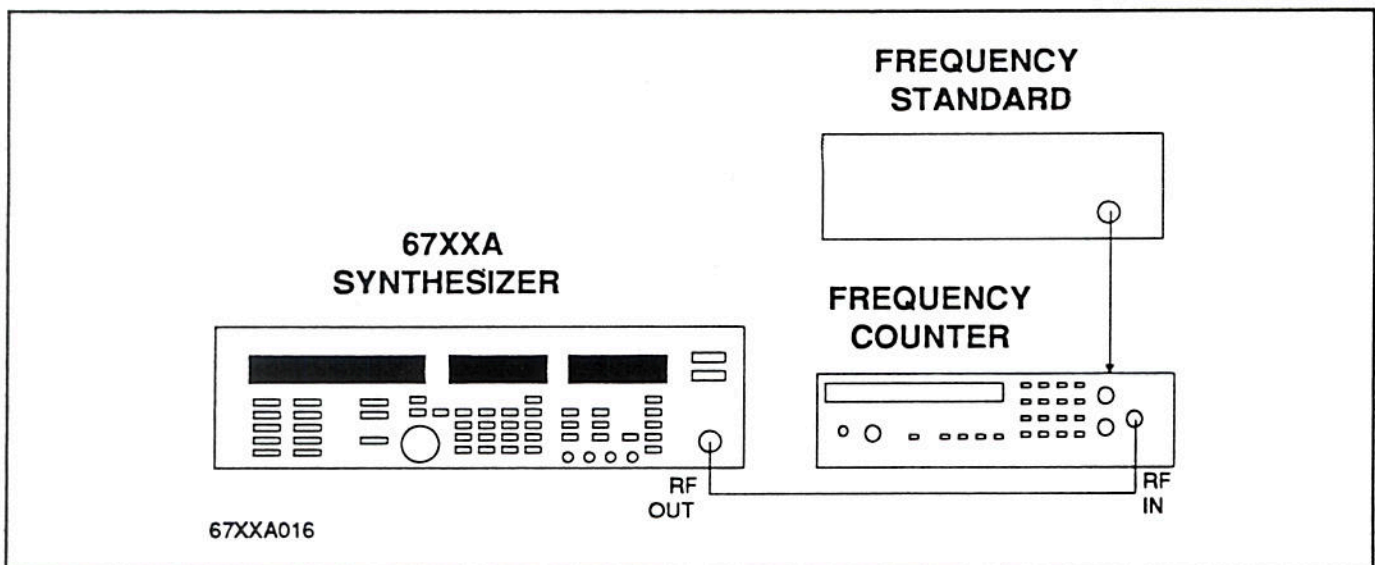

Figure 3-9. 10 MHz Reference Oscillator Adjustment Test Setup
a. **Test Setup.** Connect the equipment as shown in Figure 3-9.